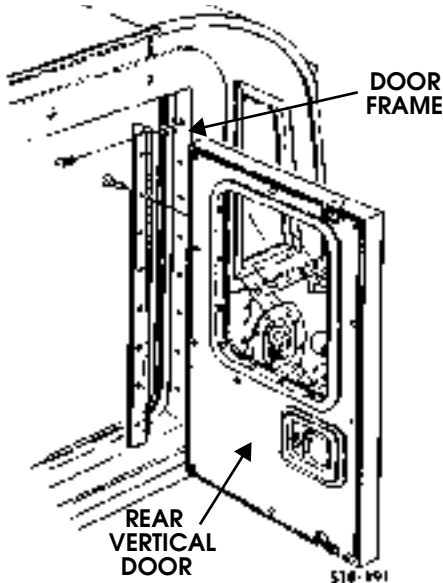

Figure 10-146: Rear Vertical Door Replacement
2. Secure hinge to door frame with seven screws (Figure 10-146).